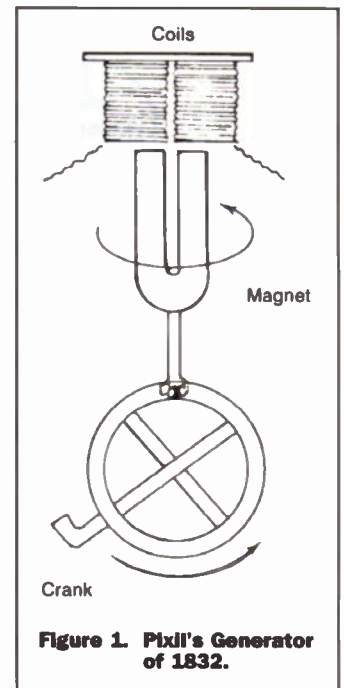

Figure 1. Pixii's Generator of 1832.
The first experimenter in the field was a French instrument-maker, Hippolyte Pixii, in 1832. His 'generator' - shown in Figure 1 - gave an Alternating Current (AC) output which, it has to be said, was hardly stable. The horseshoe magnet was driven by the crank, so that the poles were rotated under the coils.